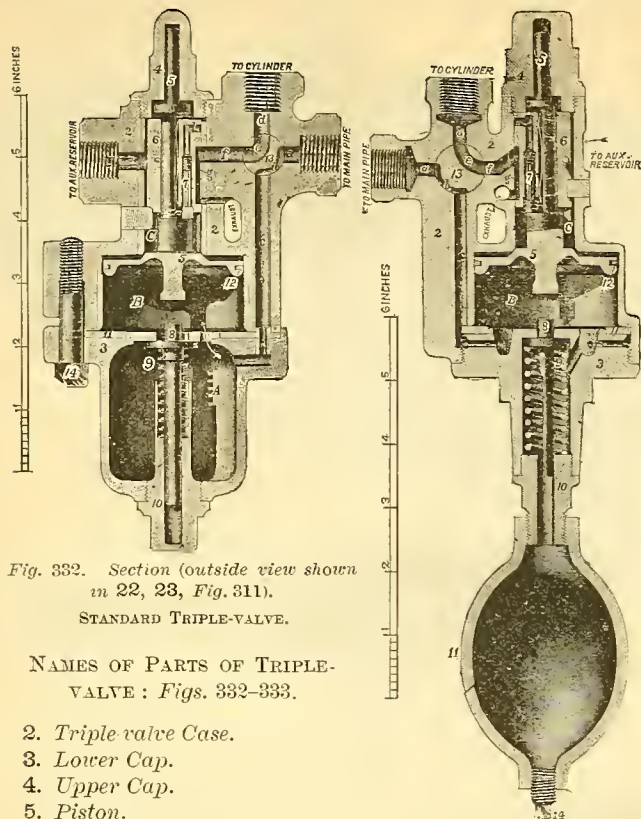

Fig. 332. Section (outside view shown in 22, 23, Fig. 311).
(Also shown in Fig. 332, and outside view in 22, Fig. 311.)
14. (Fig. 332). Connecting-bolt.
Fig. 332 is the latest and most